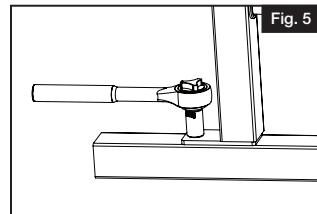
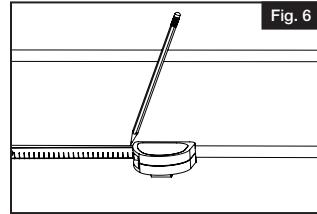
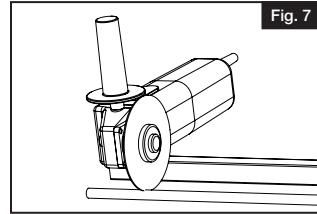

Fig. 5
Fig. 6
Fig. 7
- a. Remove uprights. Remove #10 hex screws ( $\frac{5}{16}$ ", 8mm socket) from both top and bottom of uprights (Fig. 5). Retain these screws for reattachment later. Any bushings that remain on the rods, remove and insert them back into the upright. Measure AND MARK from the end of each rod the recorded measurement from earlier in this step (Fig. 6). Do this for both ends of the panel. Cut rods. Rods can be cut with an angle grinder with a metal cutting disk (Fig. 7). Make sure rods are free of burrs.